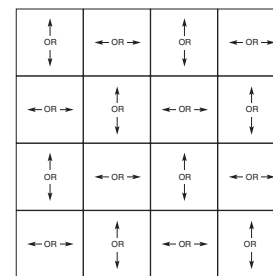
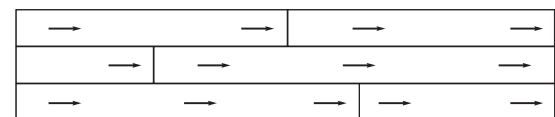

Fig. 1 - Turn tiles as shown.
Fig. 2 - Install planks with arrows running in the same direction.
- For the best visual results, the directional arrows printed on the back of the tile should be installed following the illustration in Figure 1, with tiles turned randomly, i.e. north, south, east and west. Install planks with arrows pointing in the same direction following the illustration in Figure 2.